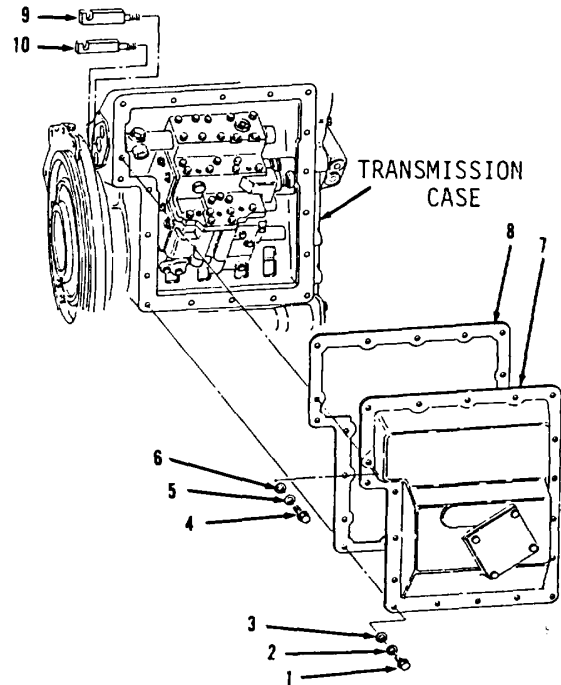

Figure 14-74.
9. Install plate (14) and two bolts (13). Tighten two bolts (13) to 19 to 25 ft-lb torque.
10. Install plate (12) and bolt (11). Tighten bolt (11) to 19 to 25 ft-lb torque.
11. Install links (10 and 9, Figure 14-74).
12. Install new gasket (8), cover (7), washer (6), lockwasher (5), bolt (4), 18 washers (3), lockwashers (2) and bolts (1).